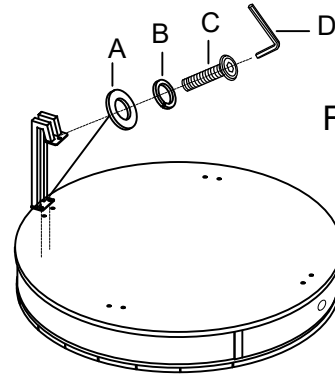

Figure 1
1. Turn the top upside down on a clean soft surface . As Shown in Figure 1.
2. Attach the three legs to the top panel using Flat Washer (A), Lock Washer (B) and Bolt (C), tighten with the Allen Wrench (D). As Shown in Figure 1. (Do not over tighten bolts during assembly.)